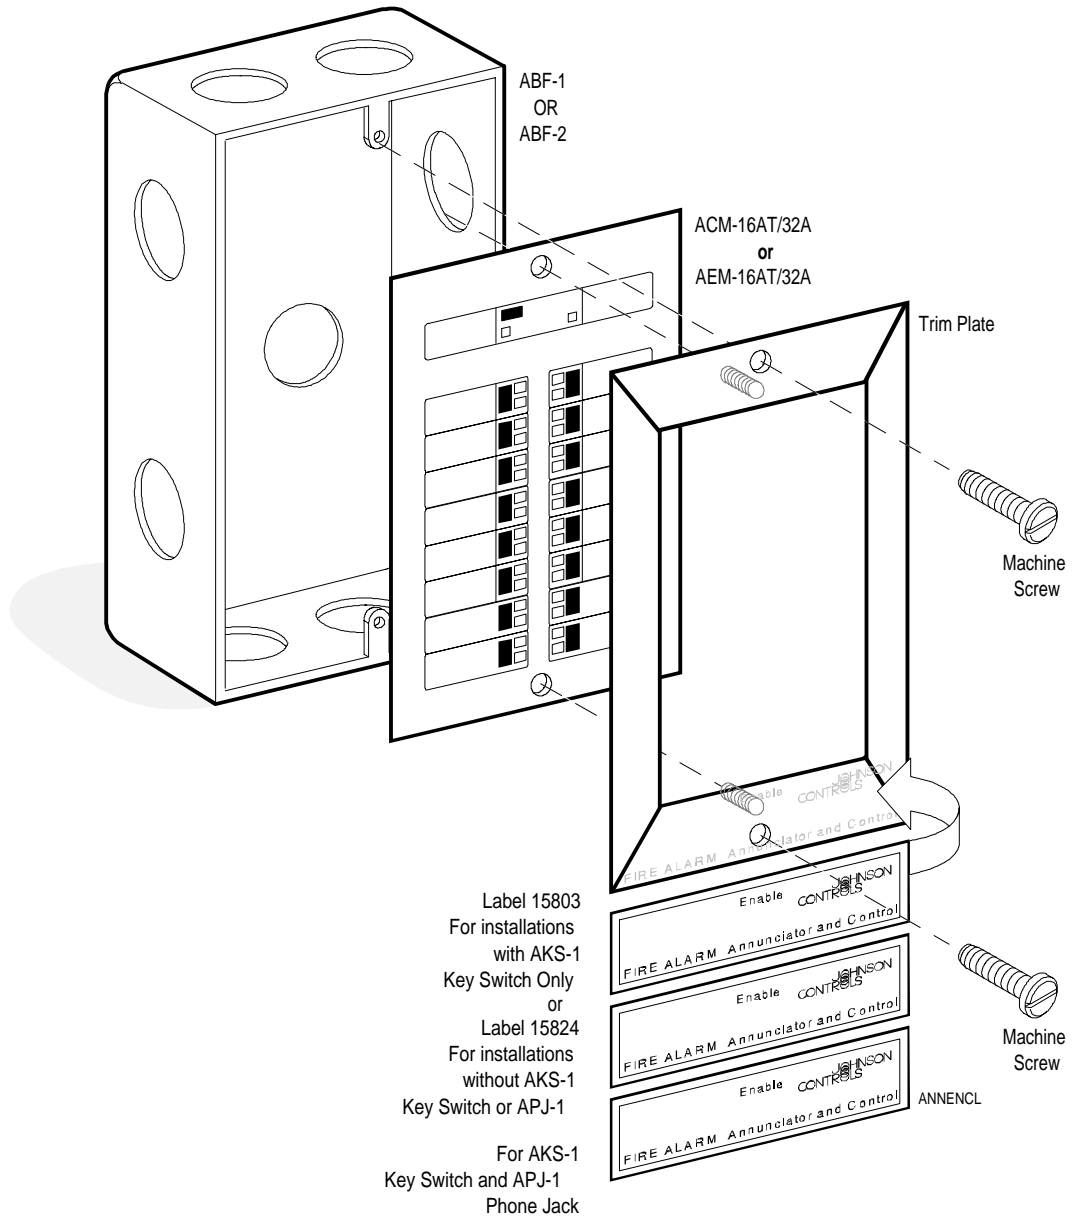

Figure 5: Installing Annunciators in an ABF-1, ABF-2, or ABF-4 Semi-flush Mounted Enclosure
2. Refer to Figures 5, 6, or 7 for the proper installation of an ACM-16AT/32A annunciator on an annunciator semi-flush trim plate of the ABF-1, ABF-2, or ABF-4 backboxes, surface mounted backbox (ABS-1 or ABS-2), or ADP-4 dress panel. Use the hardware supplied with the backbox. Skip to Step 5 if you are installing annunciator modules on an ADP-4.
2. Mount the expander module in the backbox or trim plate (Figures 5, 6, and 7).
5. Mount the expander module in the backbox or trim plate (Figure 5, 6, and 7).